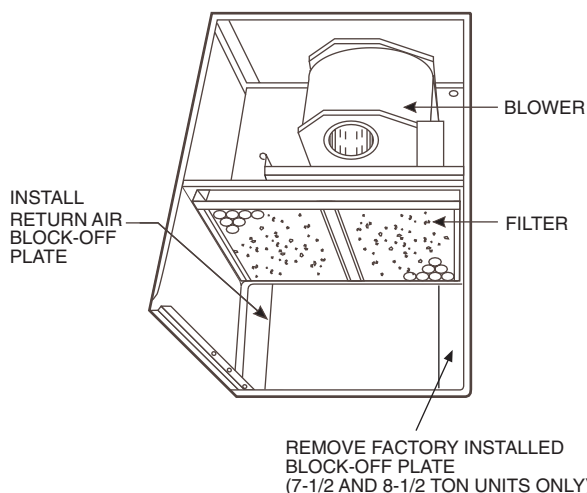

Fig. 34 — Return Air Block-Off Plate Installation (10 and 12½ Ton Units Only)
6. For 10 and 12½ ton units, install the return air block-off plate over the return air duct opening. See Fig. 34.
NOTE: For 7½ and 8½ ton units, remove the factory-installed block-off plate. See Fig. 34.